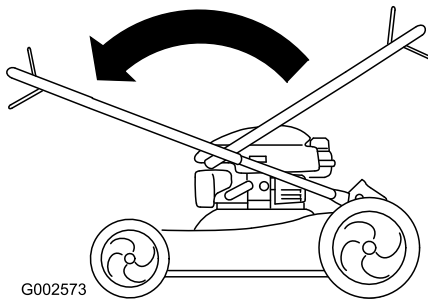

Figure 3
1. Carefully move the upper handle forward until the handle halves are in line and nest together as shown in Figure 3.